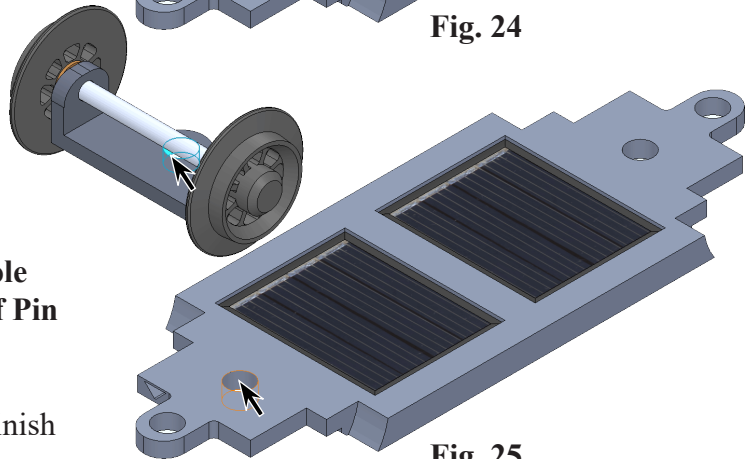

Fig. 25
Step 2. Click a **cylindrical face of Pin hole in Bogie** and a **cylindrical face of Pin hole in Deck**, **Fig. 25**.